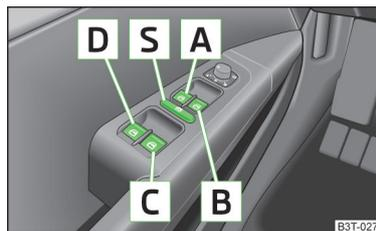

Fig. 44
- Deactivating the electrically operated power windows in the rear doors is recommended (safety push button) [S] when children are being transported in the rear seats » Fig. 44 on page 62.
- After switching the ignition off, it is still possible to open or close the windows for approx. 10 minutes. After the driver's or front passenger's door has been opened, the windows can only be operated by using button [A] » Fig. 44 on page 62.
Power window buttons » Fig. 44
The buttons for power windows in the rear doors can be deactivated by pressing the safety switch **S** » Fig. 44. The buttons for the electrical power windows at the rear doors are activated again by pressing the safety push button **S** again.
- Hold button **A** » Fig. 44 on page 62 in the opening position.
- Hold button **A** » Fig. 44 on page 62 in the closing position.